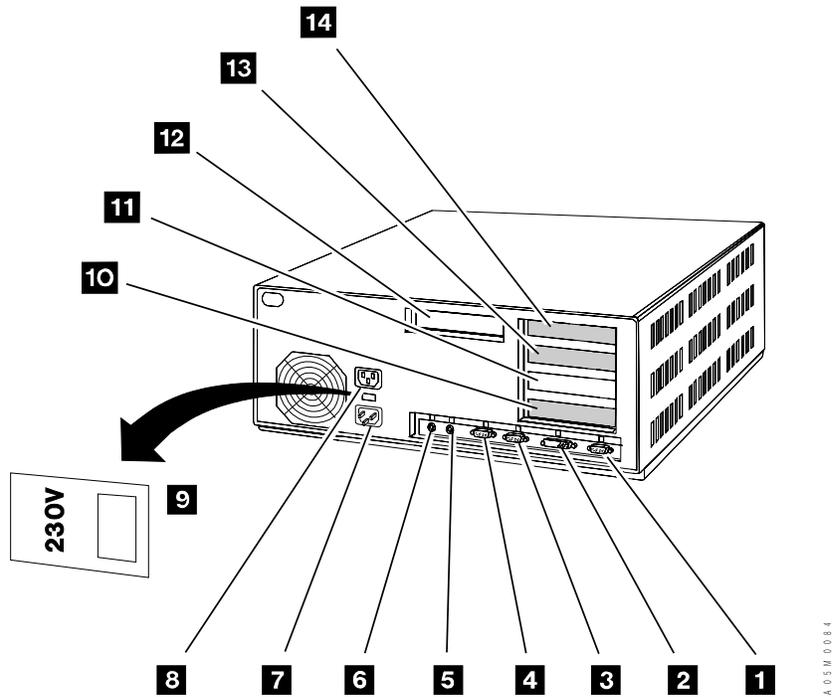
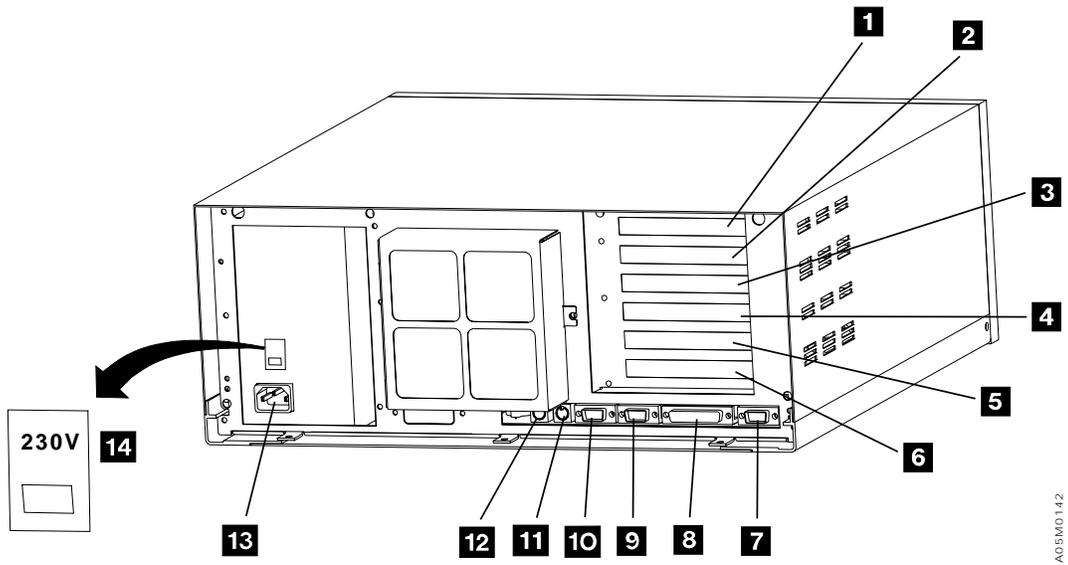
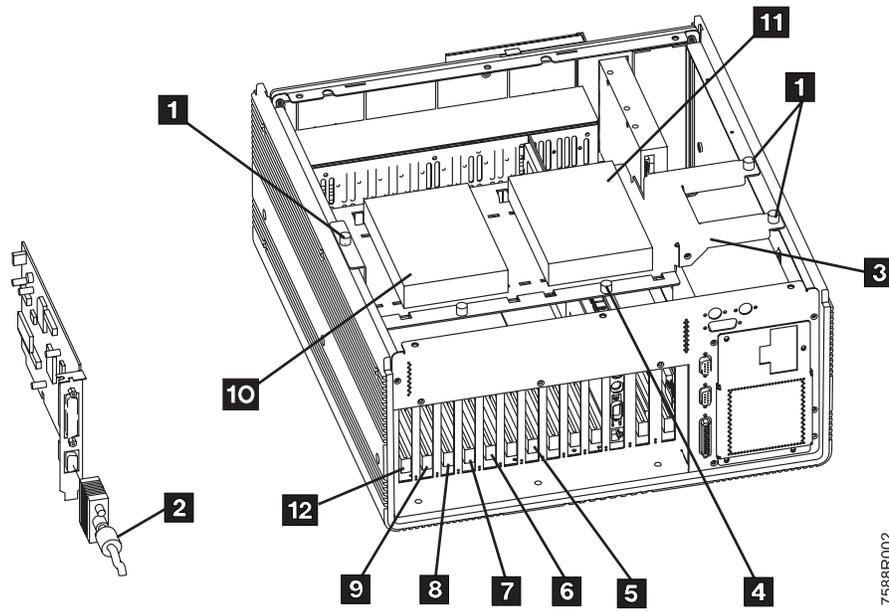

Figure 1. PS/ValuePoint System Unit
Figure 2. Model 7585 Industrial Computer System Unit
Figure 3. Model 7588 Industrial Computer System Unit (Interior View)
- ___ 1. Refer to Figure 1 on page 7 (*PS/ValuePoint Library Manager*), Figure 2 on page 7 (*Model 7585 Industrial Computer System Unit*) and Figure 3 on page 8 (*Model 7588 Industrial Computer System Unit*) to verify which Library Manager is currently installed.
- ___ a. **Discontinue this installation procedure, and go to installation instruction 05H7753 (*Expansion Attachment Card - FC 5229*) or installation instruction 05H7750 (*Ethernet LAN Attachment - FC 5220*) if Figure 2 on page 7 or if Figure 3 on page 8 represents your currently installed Library Manager. Set the contents of this FFBM to the side for parts disposition as defined within Section 14.0, "Parts Disposition" on page 33.**
- ___ b. Continue to step 2 if Figure 1 on page 7 represents your currently installed library manager.
- ___ 2. As you slide the card **3** out of the card slot, feed the cables through the card slot (**14** within Figure 1 on page 7).